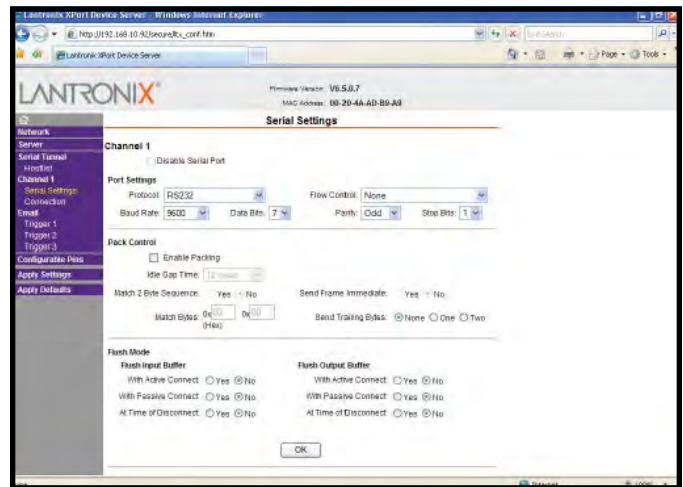

Figure 73. Channel 1 Serial Settings
- III. The configuration web page will open. Click on the "Channel 1 Serial Settings" link located in the left-hand margin (see Figure 73).